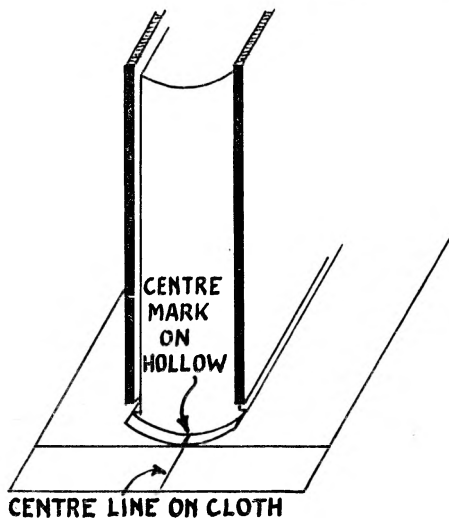

Fig. 84
22. Place a piece of waste card up to the groove on each side of the book and place it in the lying press with about 1" of the back of the book projecting. The hollow will stick down more easily at the edges if it is first bent to the shape of the spine with the fingers or worked to shape over a round bar of about the size of a broom handle. Thinly glue the back of the book and place the hollow on to it with the *single* thickness next to the spine. Position the hollow exactly level with the edges of the groove and overlapping the head and the tail equally, this overlap is seen in fig. 84. Rub well down with the folder so that the hollow is firmly attached all over the spine and allow to dry.
26. Make a mark on the inside centre of the hollow attached to the book at the head and tail, fig. 84.
cloth and let the overlap project equally at head and tail, fig. 84.